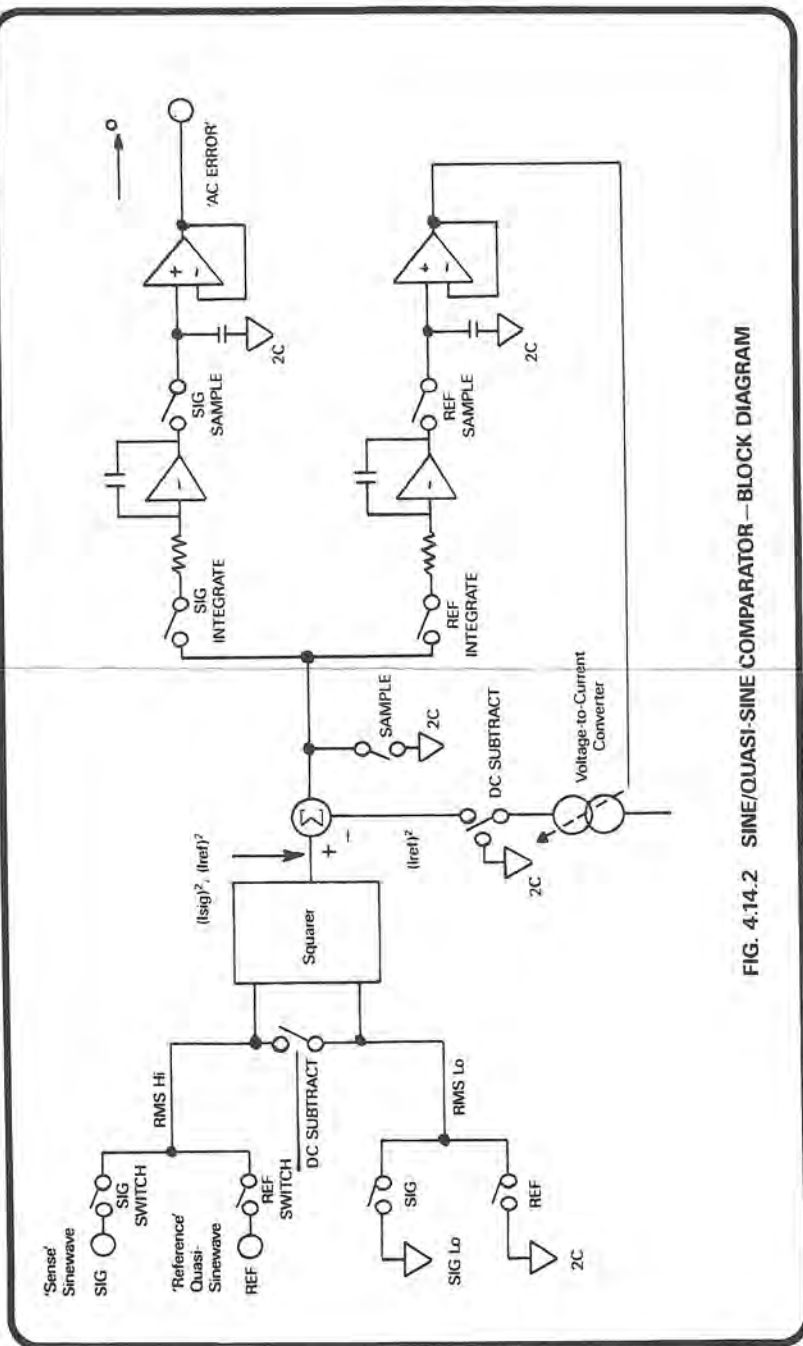

FIG. 4.14.2 SINE/QUASI-SINE COMPARATOR — BLOCK DIAGRAM
4.14.3.1 The Comparator Sequence (Figs. 4.14.2 and 4.14.3)
The table in Fig. 4.14.3 shows the conduction patterns of the switches in the block diagram of Fig. 4.14.2, within a complete sequence cycle. The cycle is broadly divided into two similar patterns ('REF' and 'SIG'), each occupying five quasi-sine-wave periods. The cycle repeats continuously.